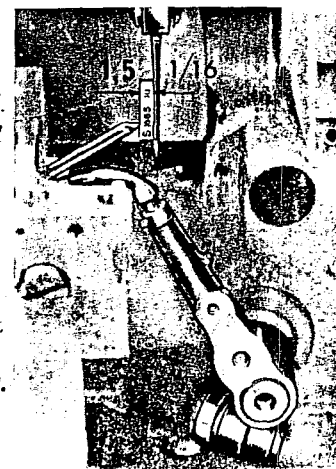

fig. 6
- When the primary looper has completed its stroke to the left and with the needle in its lowest position, the distance between the point of the looper to the needle is $\frac{1}{64}$ inch (fig. 6).
- If adjustment is required, loosen screw 'D' (fig. 6) and move looper holder 'C' left or right to the proper setting.
- With primary looper set as shown in (fig. 6), adjust looper holder 'C' forward or backward on primary looper shaft so that looper passes the needle on its stroke to the right as close as possible above the center of the needle scarf, and on its stroke to the left, below the center of the needle scarf with no deflection to the needle.